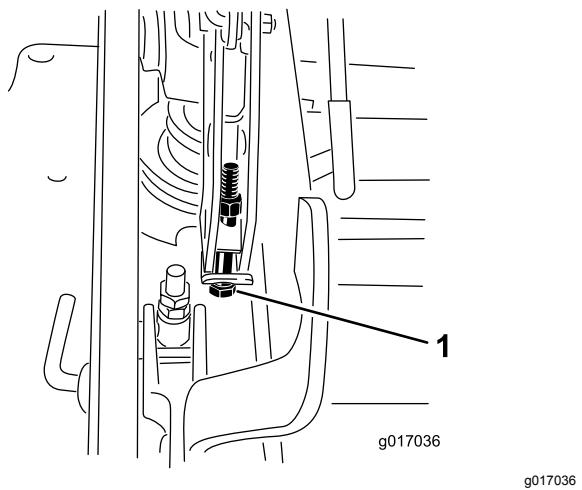

Figure 99
- If the deck is too low, tighten the single-point-adjustment bolt by rotating it clockwise. If the deck is too high, loosen the single-point-adjustment bolt by rotating it counterclockwise (Figure 99).